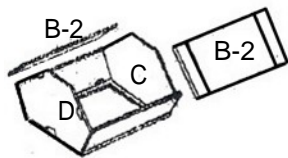
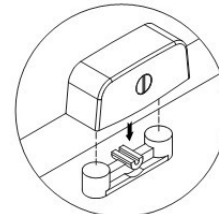

Figure 5
Figure 6
4. **Installing the Rear Side Panels B-2 (Figure 5)** Position the rear side panels B-2 so that the panel connectors align to the top panel (D), bottom panel (C), and front side panel (B). Gently work the panels into position. Make sure that it fits well and lock the cam lock connectors as (Figure 6).